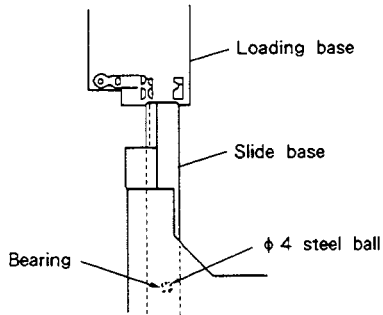
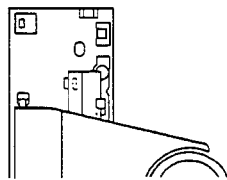

Fig. 9-9
Fig. 9-10
<p>Re-mount the disc tray according to the following procedure when the grating adjustment is complete.</p> <ol style="list-style-type: none"> 1. Remove the disc and the spacer. 2. While lifting the clamp holder [marked ⑧ in Fig. 9-4] with the right hand, hold the tray in the left hand as indicated by ⑨ and slide the slide base into the hard resin fittings on the loading base as shown in Fig. 9-9 to re-insert the disc tray. At this time, be sure to hold the steel ball in place with the index finger of the left hand. Also, be careful that the front panel is not damaged by the slide base and steel ball's bearing (in the slide base) coming into contact with the panel. 3. Insert the slide base so that it fits into the two hard resin fittings at the rear of the loading base (see Fig. 9-10). 4. Insert the tray tightly.